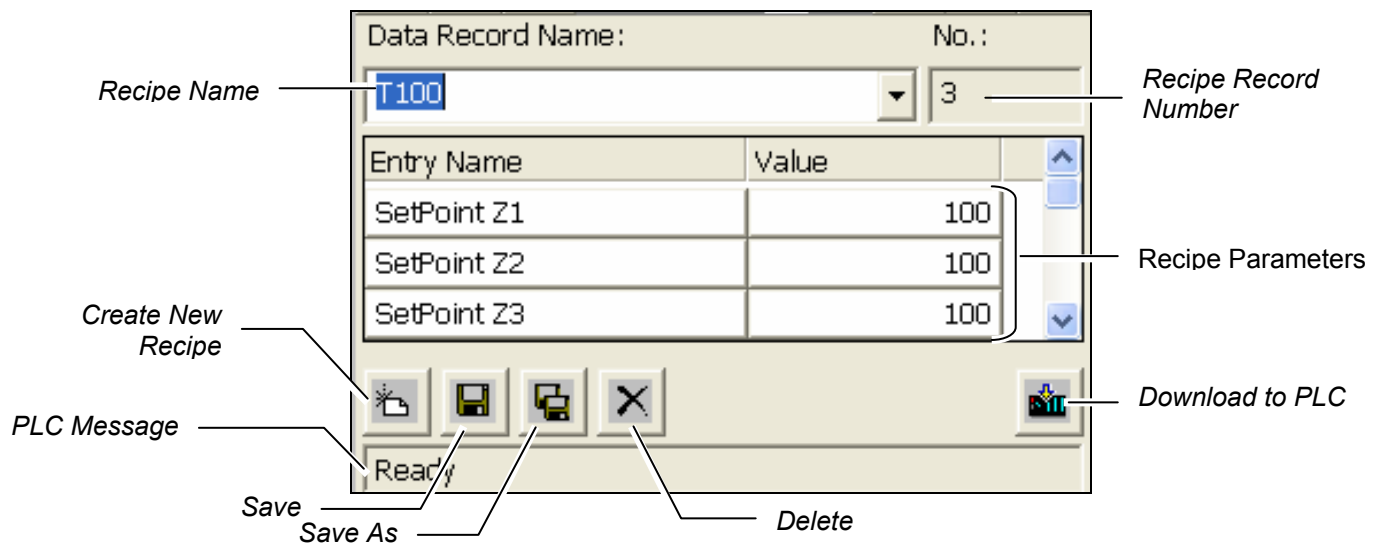

Figure 6-14 Recipe Parameters
2. The Recipe Parameters screen appears. Enter or change the **Recipe Values** (Figure 6-14).